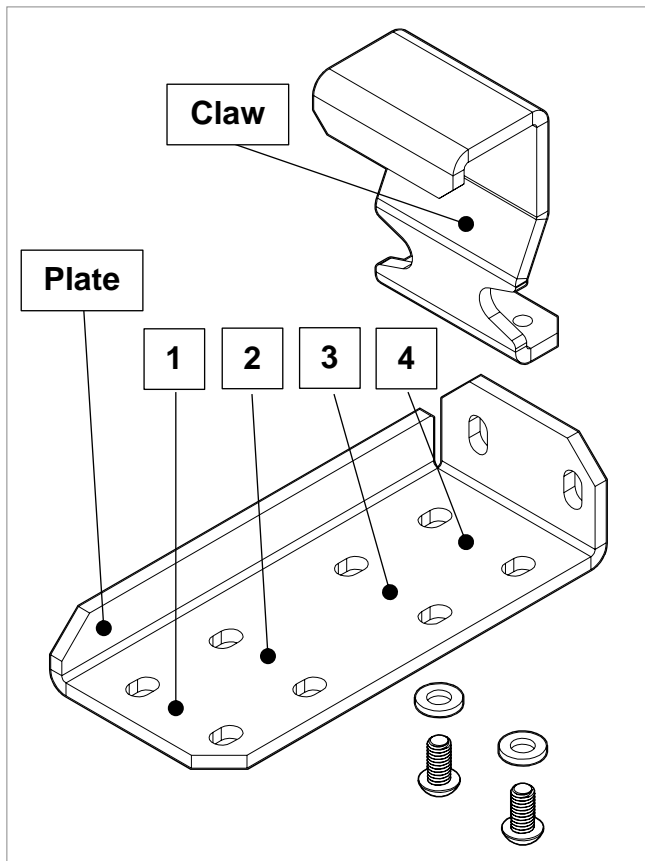

Figure 9.2
3. The side panel middle bracket is shown below in Figure 9.2. The claw may be fitted to the plate in one of four positions, depending on the configuration of the bed: